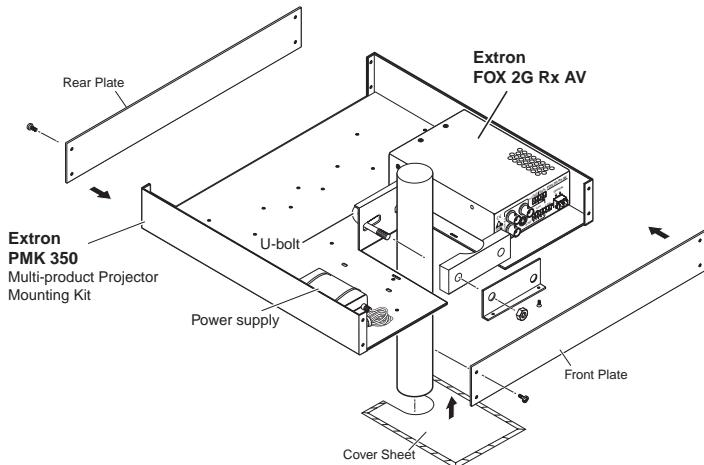

Figure 2-4 — Projector mounting
5. Mount the power supply, using the provided plastic ties or Velcro® strips (see figure 2-4 below).
13. Reattach the cover sheet (see figure 2-4).